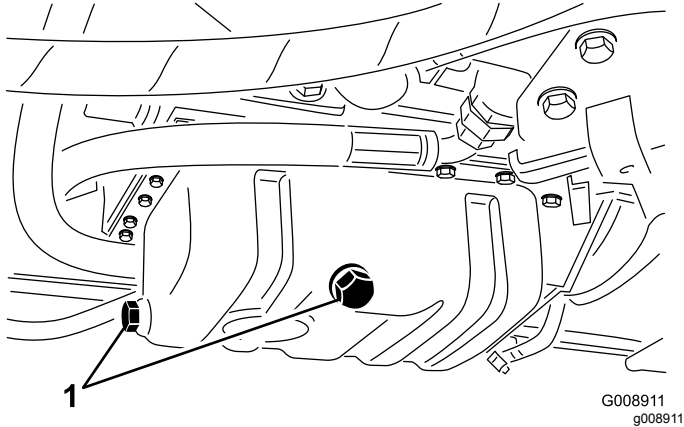

Figure 45
1. Remove the drain plug (Figure 45) and let the oil flow into a drain pan.